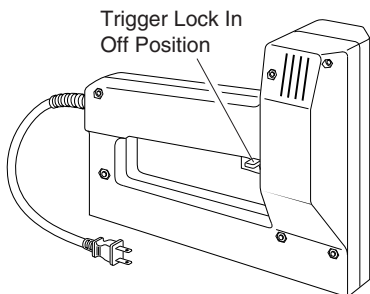

Figure 1
1. Move trigger lock to the OFF position (see Figure 1) and unplug tool.